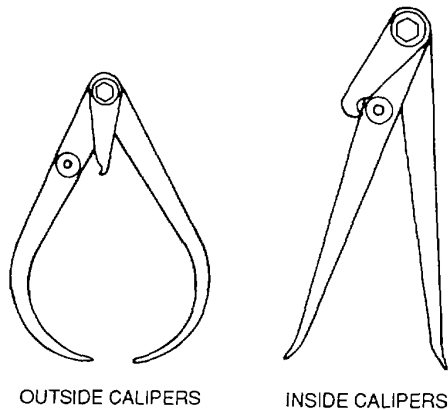

**Figure 3-24. Simple Calipers**
(1) *Simple calipers.* The simple outside calipers are bowlegged. Those used for inside diameters have straight legs with feet turned outward. Calipers are adjusted by pulling or pushing the legs to open or close them. This type is shown in figure 3-24.